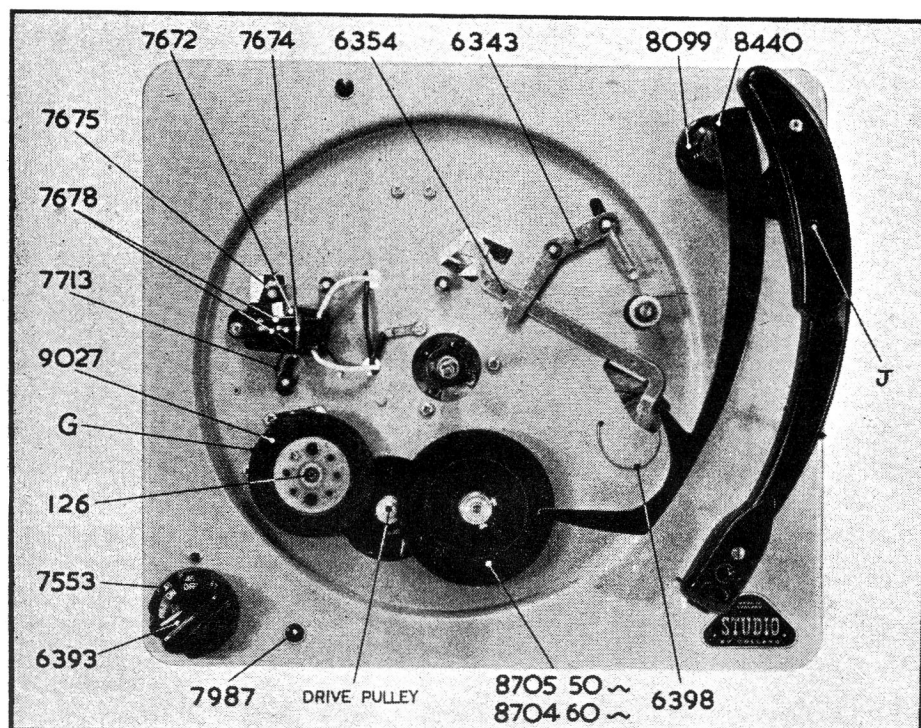

FIG 4.
- (c) Remove Drive Wheel (No. 8704, Fig. 4) (the larger of the two rubber pulleys) by loosening two 6 B.A. cheese headed screws in Drive Wheel Boss and lifting wheel off spindle (Part 5154, Fig. 2).